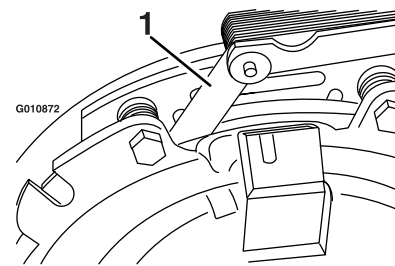
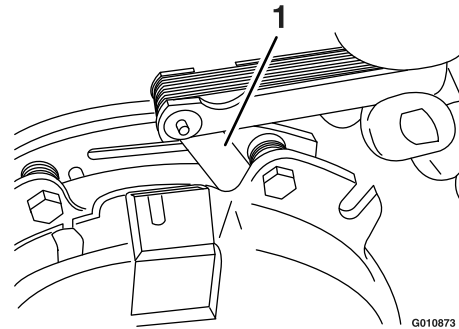

Figure 61
Figure 62
- E. Using a 0.010 inch thick-feeler gauge, verify that a gap is present between the rotor and armature face on both sides of the brake pole as shown in Figure 61 and Figure 62.